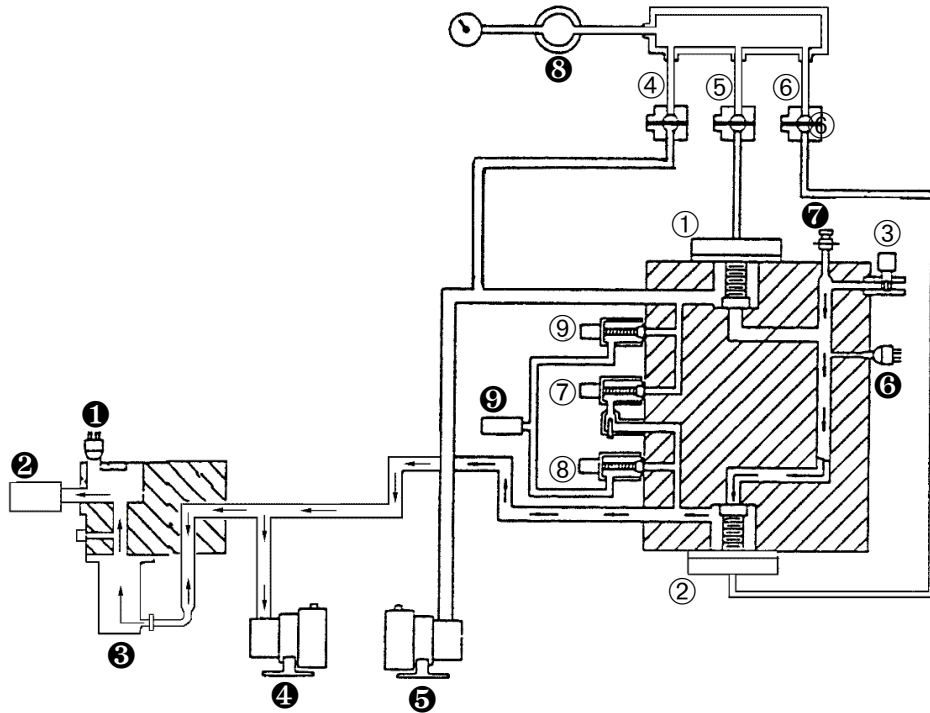
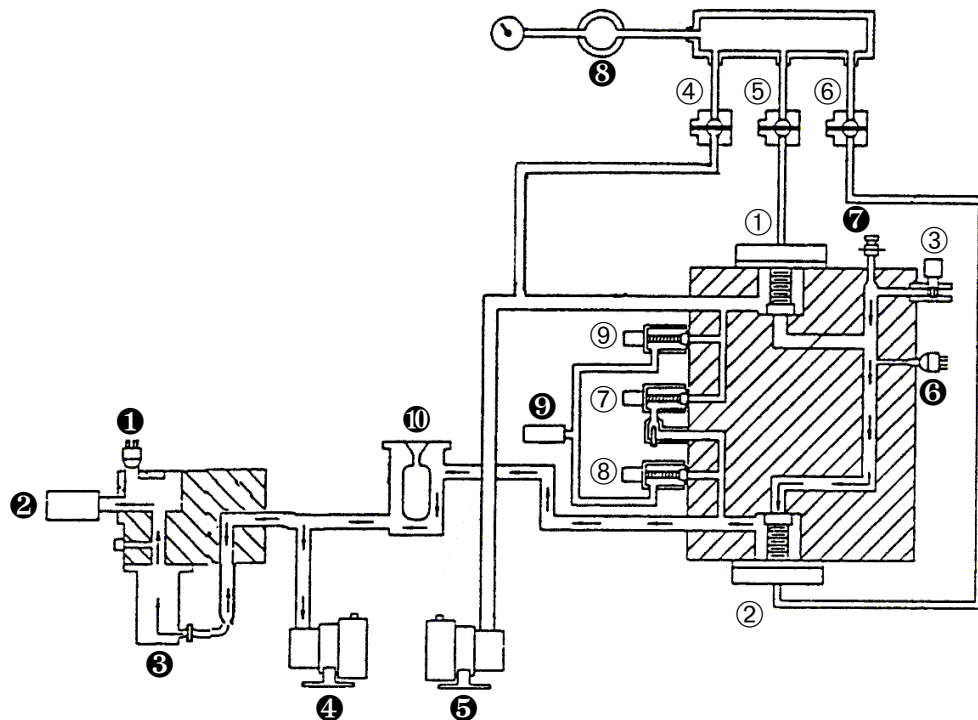

Figure 2-1 947 Flow Diagram
Figure 2-3 948 Flow Diagram
In Figure 2-1 and Figure 2-3 on page 2-5, valves are designated by numbers in white circles (①), other key parts of the vacuum system are designated by numbers in black circles (❶). The key parts are identified below the figure. The valve numbers are used in Table 2-1. The valve name and type are defined in the upper portion of the table, the state of each valve based system status is shown in the lower portion of each table.
Refer to Figure 2-3 on page 2-5 for valve locations.
In Figure 2-3, numbers in white circles designate the location of valves. Other key parts of the vacuum system, represented by numbers in black circles, are identified after Figure 2-3.